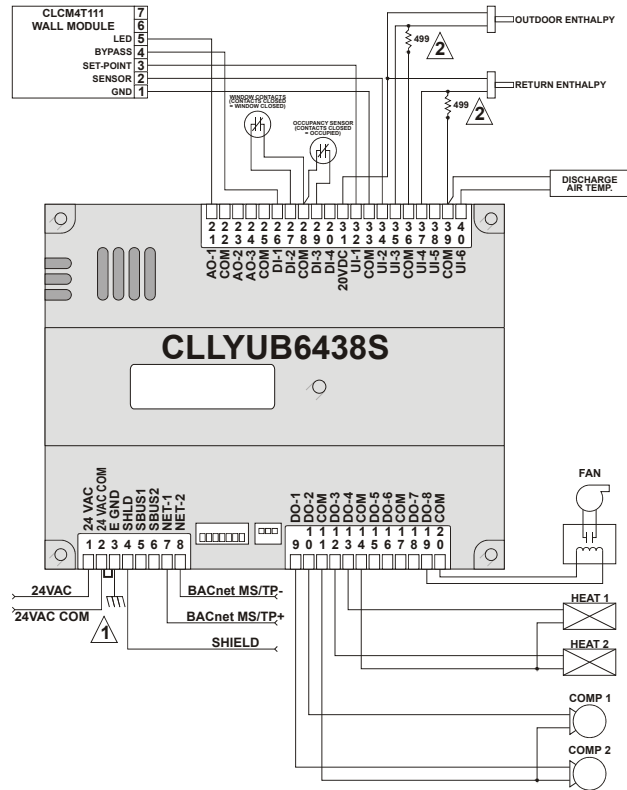

Fig. 17. Controller wiring diagram (CLLYUB6438S shown) with 4...20 mA enthalpy sensors and digital inputs
- Typical controller wiring for 4...20 mA enthalpy sensors and digital inputs (see Fig. 17).